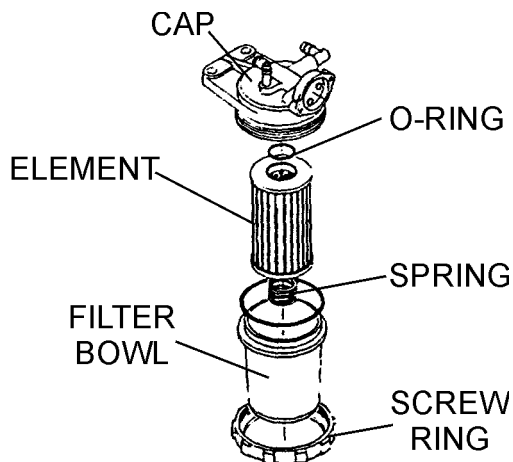

Figure 39. Fuel Filter Disassembly
1. Remove the top cap (Figure 39) from the fuel filter and rinse cap and filter bowl with diesel fuel.